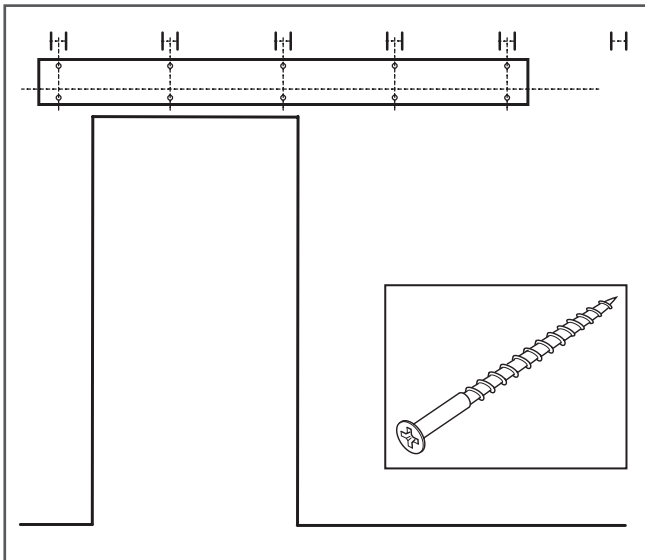

Figure 7
8. Align the line on the wall with the line made on the header in step 4. Ensure pilot holes align with wall studs (Figure 7).
9. Install header using 3" wood screws (F) (Figure 7).